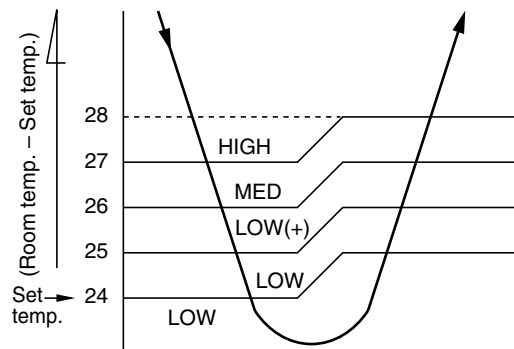

Fig. 7-1-1 Auto setting of air volume
- 1) When the FAN is set to AUTO, the indoor fan motor operates as shown in Fig. 7-1-1.